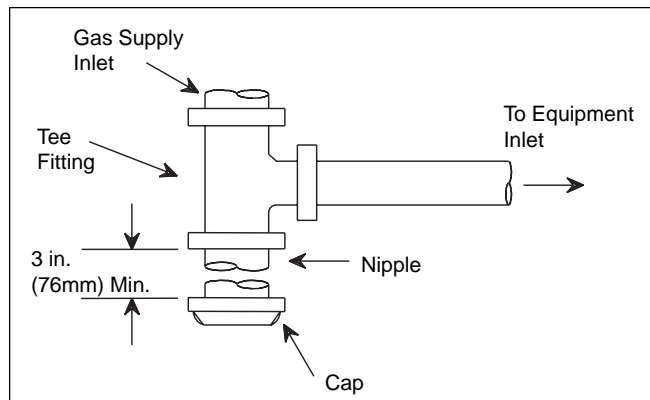

Figure 5. Typical design for a sediment trap/drip leg.
- A sediment trap (drip leg) must be installed ahead of the gas controls (see Figure 5). Fit the trap with a threaded cap which can be removed for cleaning.